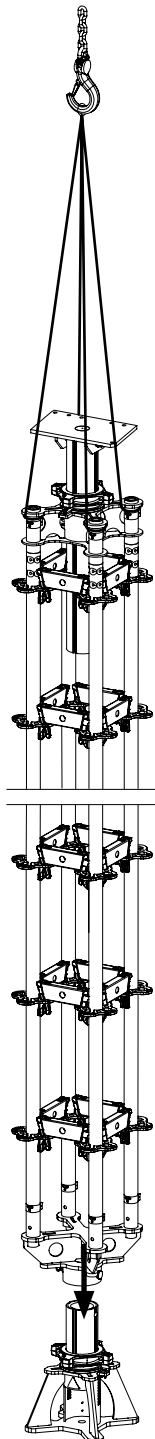

Fig. A2.06
2. Attach prop to crane and raise to a vertical position. (Fig. A2.06)
3. Position prop with Connecting Plate (2) on the Spindle Tube (1.3) of the Lowering Jack.